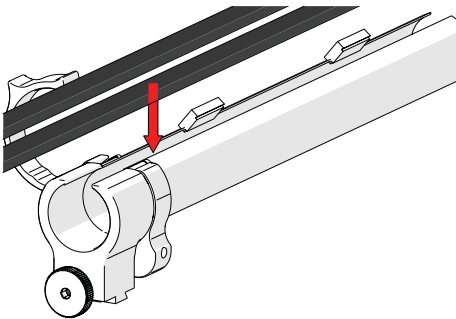

Fig. 53 - Insert cables and hoses
1. Open the zipper tube and cable clip. Begin at the tube's dovetail mount and place the cabling in the tube (*Fig. 53*).